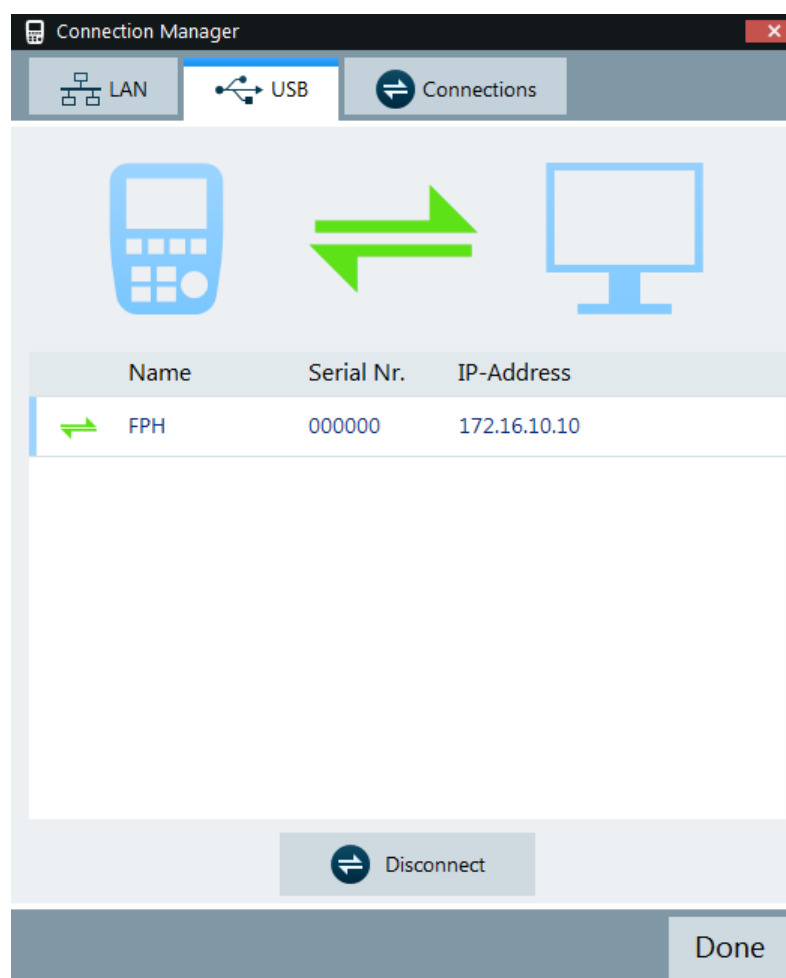

Figure 4-10: USB connection
3. There is only one USB instance in the connection manager list. See Figure 4-10. Depending on the connection status icon,   you can connect or disconnect an instrument from the connection manager list